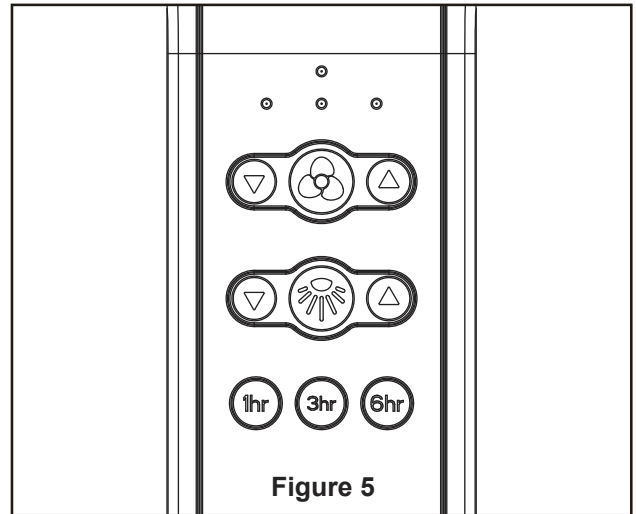

Figure 5
4. After connections have been made, the wires should be spread apart with the grounded conductor and the equipment-grounding conductor on one side of the outlet box and the ungrounded conductor on the other side of the outlet box, then turn leads upward and carefully push leads into the outlet box, with the white and green leads to one side of the box and the black leads to the other side. (Figure 5)
5. Assemble the LED assembly to the light kit using the two key slots and replace the third screw and securely tighten all three screws. (Figure 5)
### 5. Remote functions: (Figure 5)